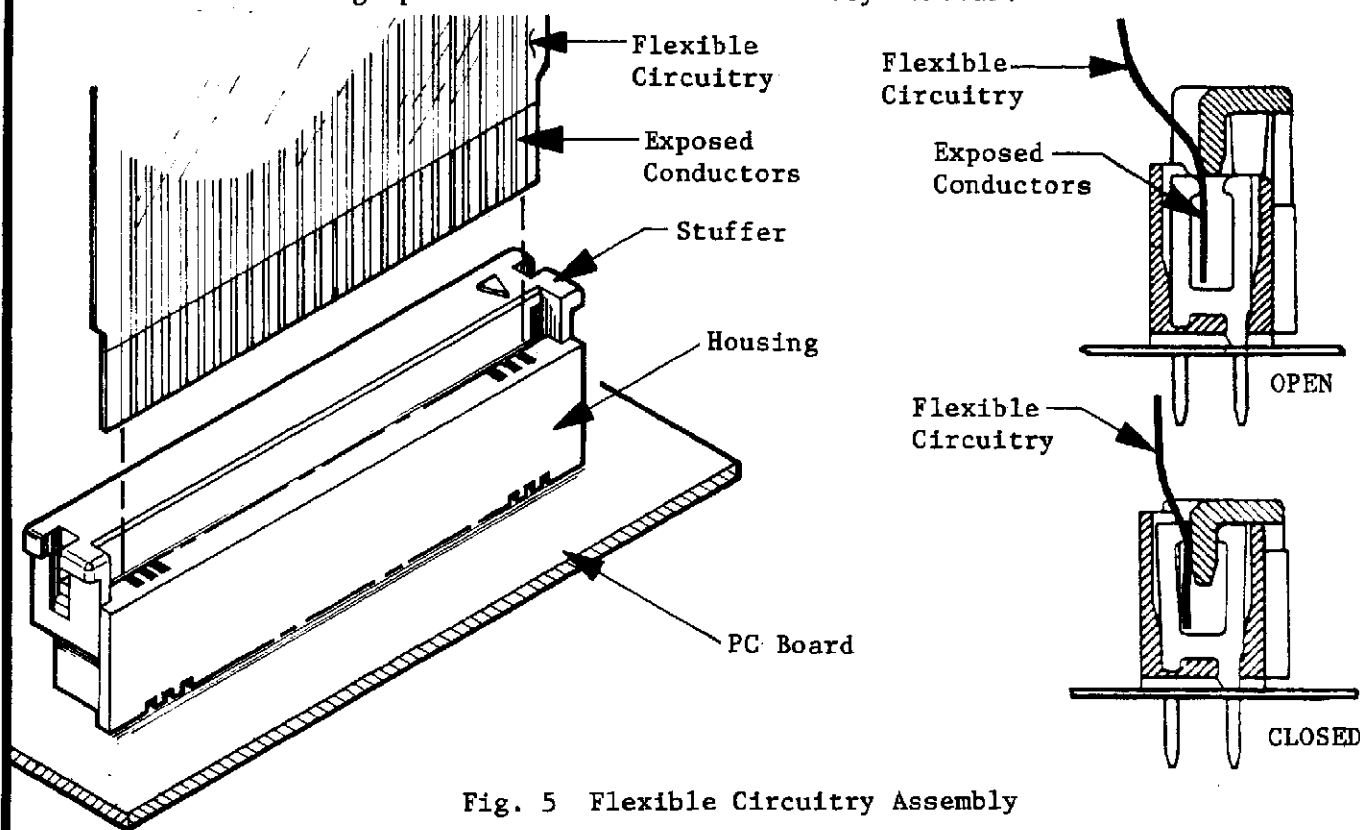

Fig. 5 Flexible Circuitry Assembly
1. Assemble connector to pc board. With stuffer in open position, insert flex circuit into housing until it bottoms in cavity. The exposed conductors must be oriented as shown in Figure 5.